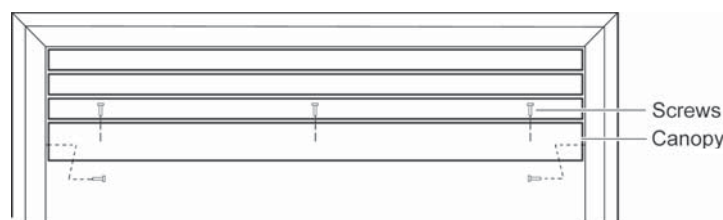

Figure 5 - Canopy Installation
2. Align the canopy with the holes in the top frame. *See Figure 5.*
3. Secure screws as shown. *See Figure 5.*